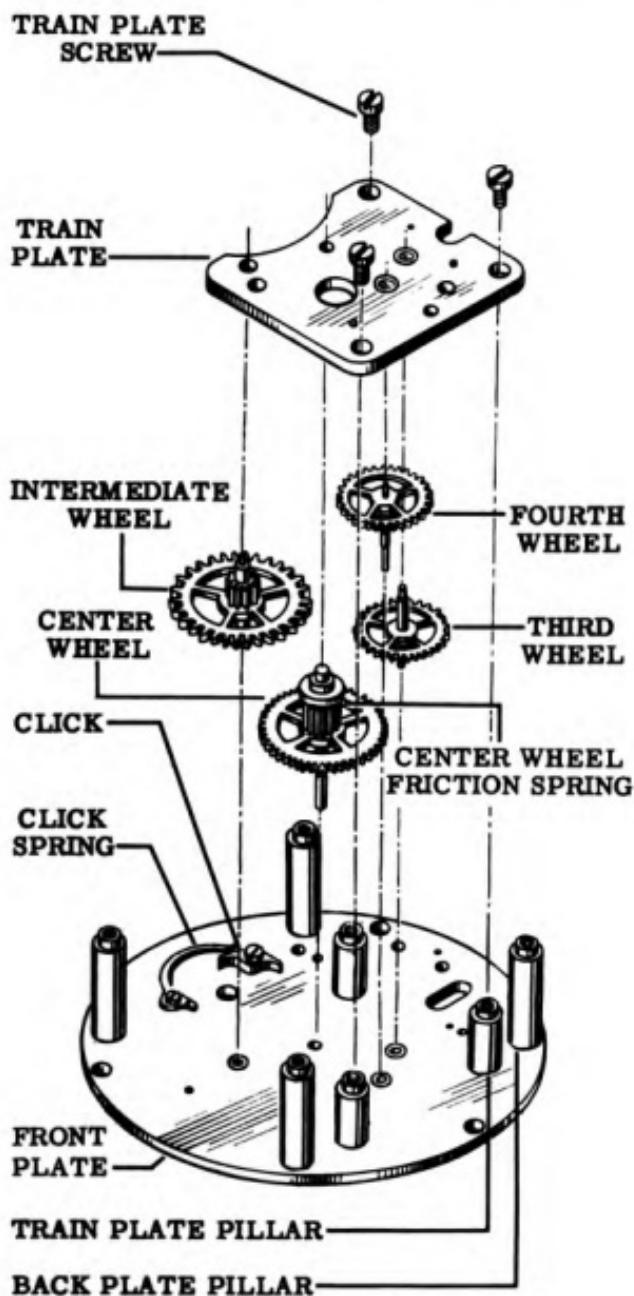
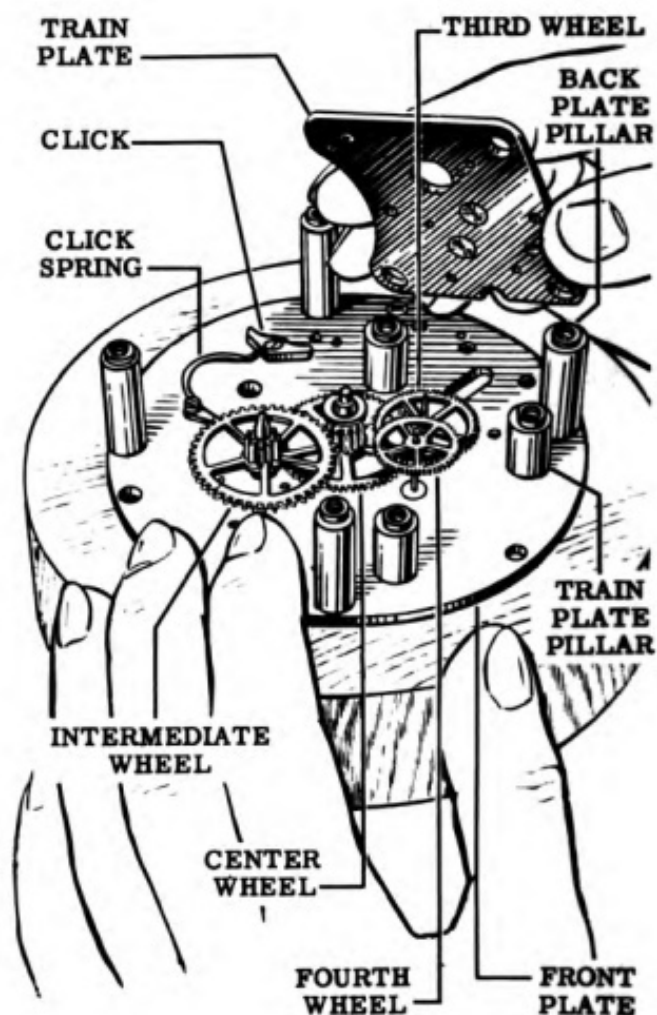

Figure 73
Figure 74
up. Already mounted on the front plate should be the pillars, the click and the click spring, unless they have been removed for replacement. Replace any of these parts that are missing. Refer to Fig. 73 for the proper positions of these parts.
- Put in the center wheel, the intermediate wheel, the third wheel and the fourth wheel. See Fig. 73 for the proper positions. Put on the train plate (see Fig. 74) and fasten it down with the three train plate screws. Use the special collar (Tool No. 13A) on the end of an automatic screwdriver to avoid scratching the plate and to speed up the work.